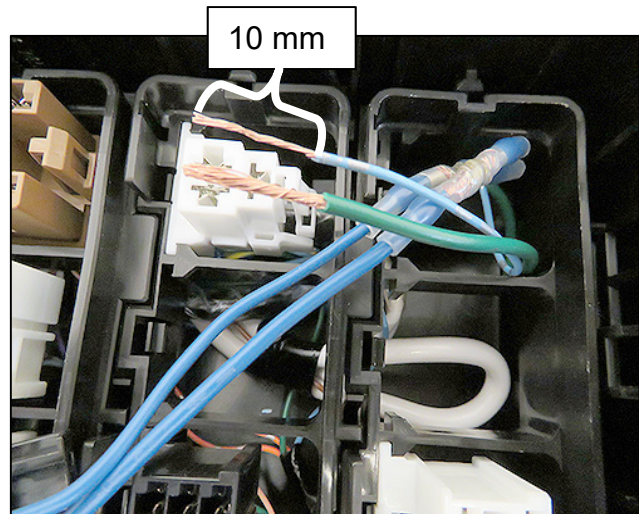

Figure 24
25. Cut and then remove insulation from the two remaining wires of the old E54 harness connector as shown in Figure 24.